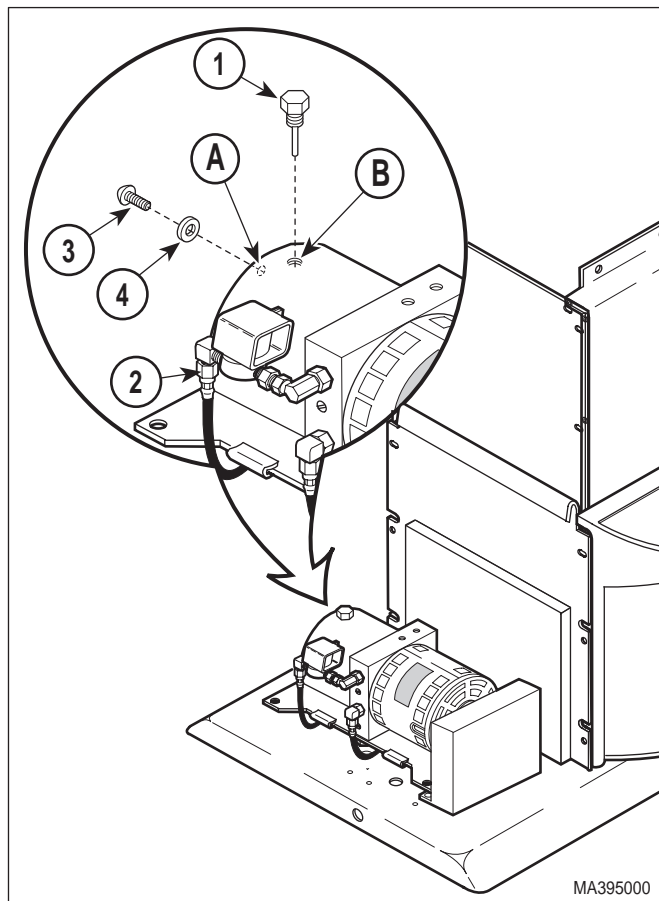

Figure 4-2. Checking / Adding Oil To Motor Pump
- (1) Move the BASE DOWN, BACK DOWN, TILT DOWN, and FOOT DOWN functions all the way down.
- (2) Remove motor cover assembly (Refer to para 4.2).
- (3) Remove filler cap (1, Figure 4-2) from motor pump (2).
- (4) Remove screw (3) and gasket (4) from motor pump (2).
- (5) Check oil level. If oil level in reservoir is not even with oil level check hole, oil must be added.
- (6) Place a rag under oil level check hole (A).